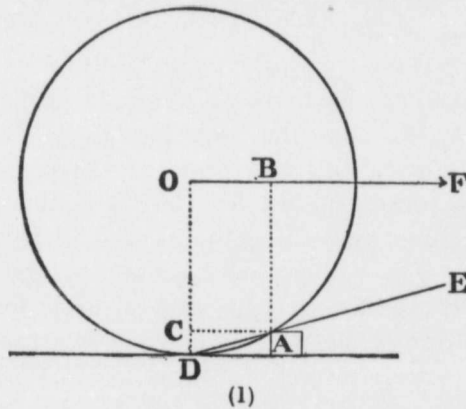

Fig. 18.
Wheels.—What is the advantage of having wheels on a wagon? We have all drawn weights on these small express wagons that girls and boys play with, and we know that it is easier to draw the weight when it is on the wagon than if we tried to drag it along the ground. Why is it easier? We know that it is because of the wheels; but how do wheels make it easier? Let us proceed to answer this question, but first let us settle why it is hard to drag a weight along the ground or pavement or side-walk. You will answer that it is because of the friction between the weight and the other surfaces. Friction is due to small projections in the two surfaces in contact; these projections strike against each other and retard the motion. If the weight and pavement were absolutely smooth it would take no force at all to keep the weight moving on the pavement, if it were once started, and if the pavement were perfectly level. How then does the wheel overcome the friction of the road? If you will examine Fig. 18 you will see that the wheel overcomes the friction of the road by lifting the weight over the projections.
Size of Wheels.—Is it better to use large wheels or small wheels on a wagon? We can answer this question by examining (1) Fig. 18, and (2) Fig. 18 a. Wheel (1) is twice the size of wheel (2), and the obstruction at A is of the same size in each case. Examine the weight arm AC
Fig. 18 a.
What effect does this have on the force necessary to pull the load along? We know that it is harder to pull a load when the wheels sink into the road bed. But why is it? We can answer this by again looking at (1) and (2) Figs. 18 and 18 a. When the wheels sink into the road the load is really being pulled up-hill all the time. If we think of the wheels sinking to the depth represented by obstruction A in (1) and (2), the line DE in each case represents the real road bed and we see that the grade is steeper in (2) than in (1); therefore the pull would be greater for the small wheel than for the large wheel if they sank to the same depth. But we found above that the small wheel would sink deeper than the large wheel, therefore the pull would be greater still for the small wheel than for the large one. This then is a second reason why it is better to use large wheels than small wheels.
On ordinary roads, however, where the wheels sink in to a certain extent, the wagon is really going up-hill all the time, and it has been found by experiment that the pull is least when the traces are parallel to the grade up which the wagon is going. See (3) Fig. 18 a. DE is the grade and OF the slant of the trace. We can see why the
In the ordinary wagon which is used for all purposes, the size of the front wheels is determined as follows: When the average height of the horses used is known, and the best slant of the traces for the ordinary condition of the road, then the axle of the front wheel may be as high as the lower end of the traces. A study of the force arm and weight arm in Figs. 18 and 18a shows us that there is no advantage in having the axle higher than this.